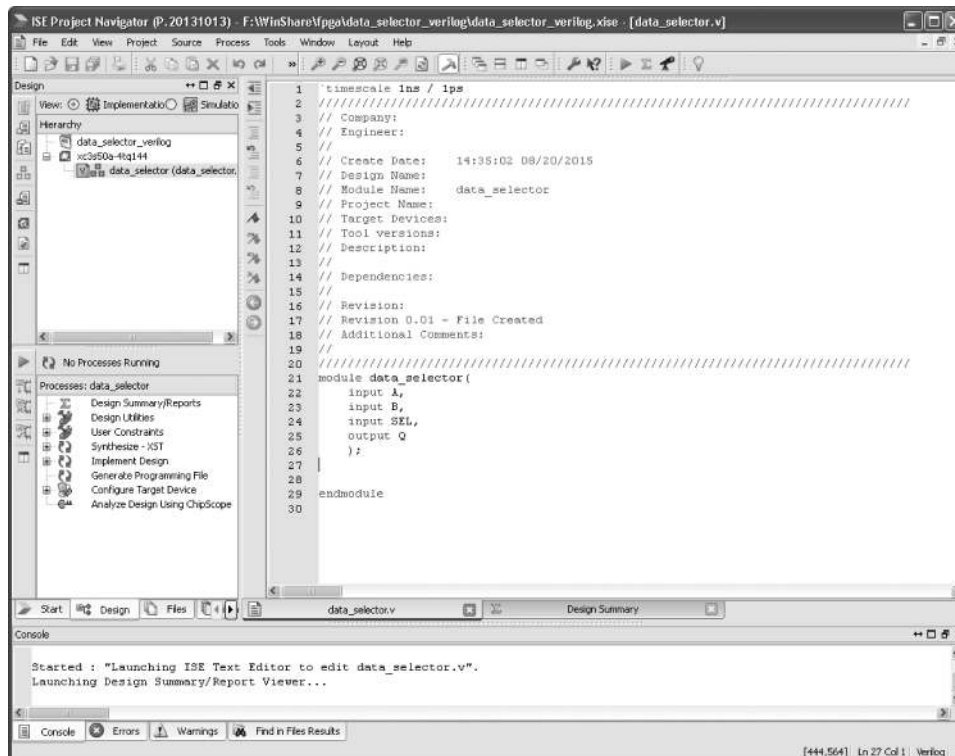

FIGURE 14.26 The generated module code.
Use the wizard window to define three inputs (A, B, and SEL) and one output (Q). Then click "Next" and then after the summary screen click "Finish." The wizard will then generate a template file for your Verilog module using the information you entered in the wizard (Fig. 14.26).